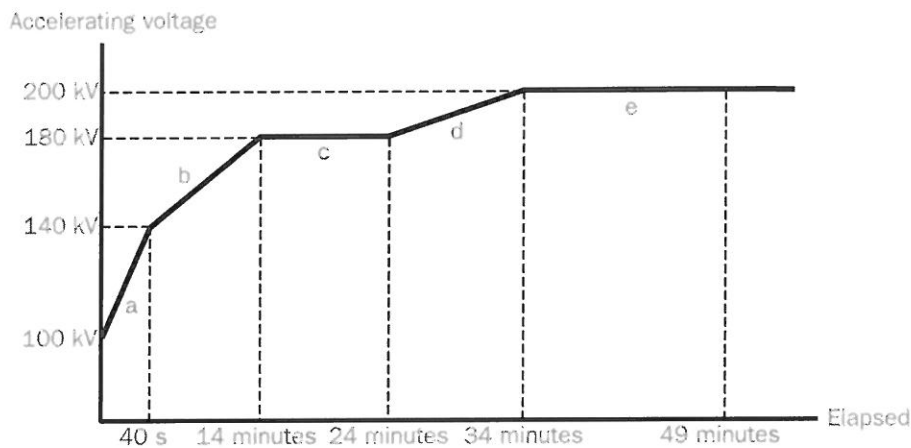

Fig. 5.15 Schedule for voltage increase
5. Follow the schedule below to increase the acceleration voltage using the **UP/DOWN** buttons (High Voltage Control window (Fig. 4.29-④)) (Fig. 5.15).